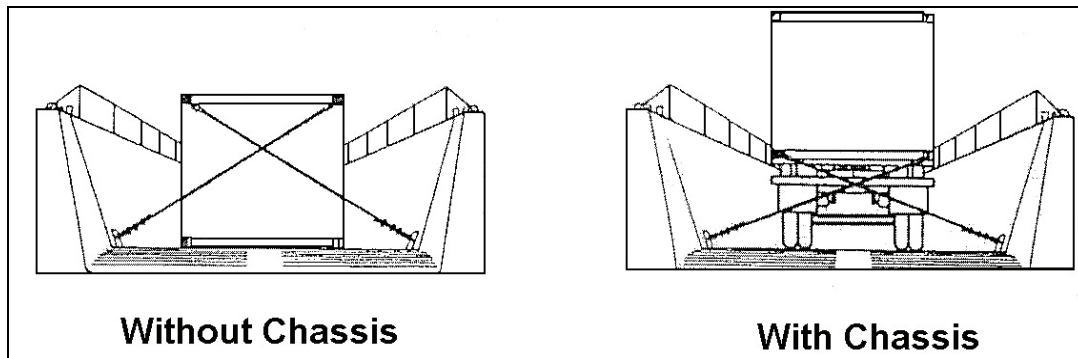
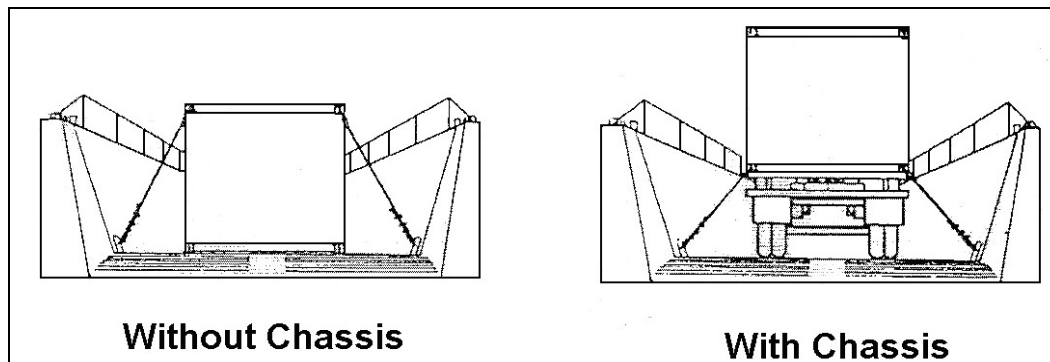

Figure 3-141. Crisscross Lashing
Figure 3-142. Side-to-Side Lashing
- b. Ensure the use of the crisscross (Figure 3-141) or side-to-side (Figure 3-142) lashing technique when attaching lashing to deck fittings in the well deck.